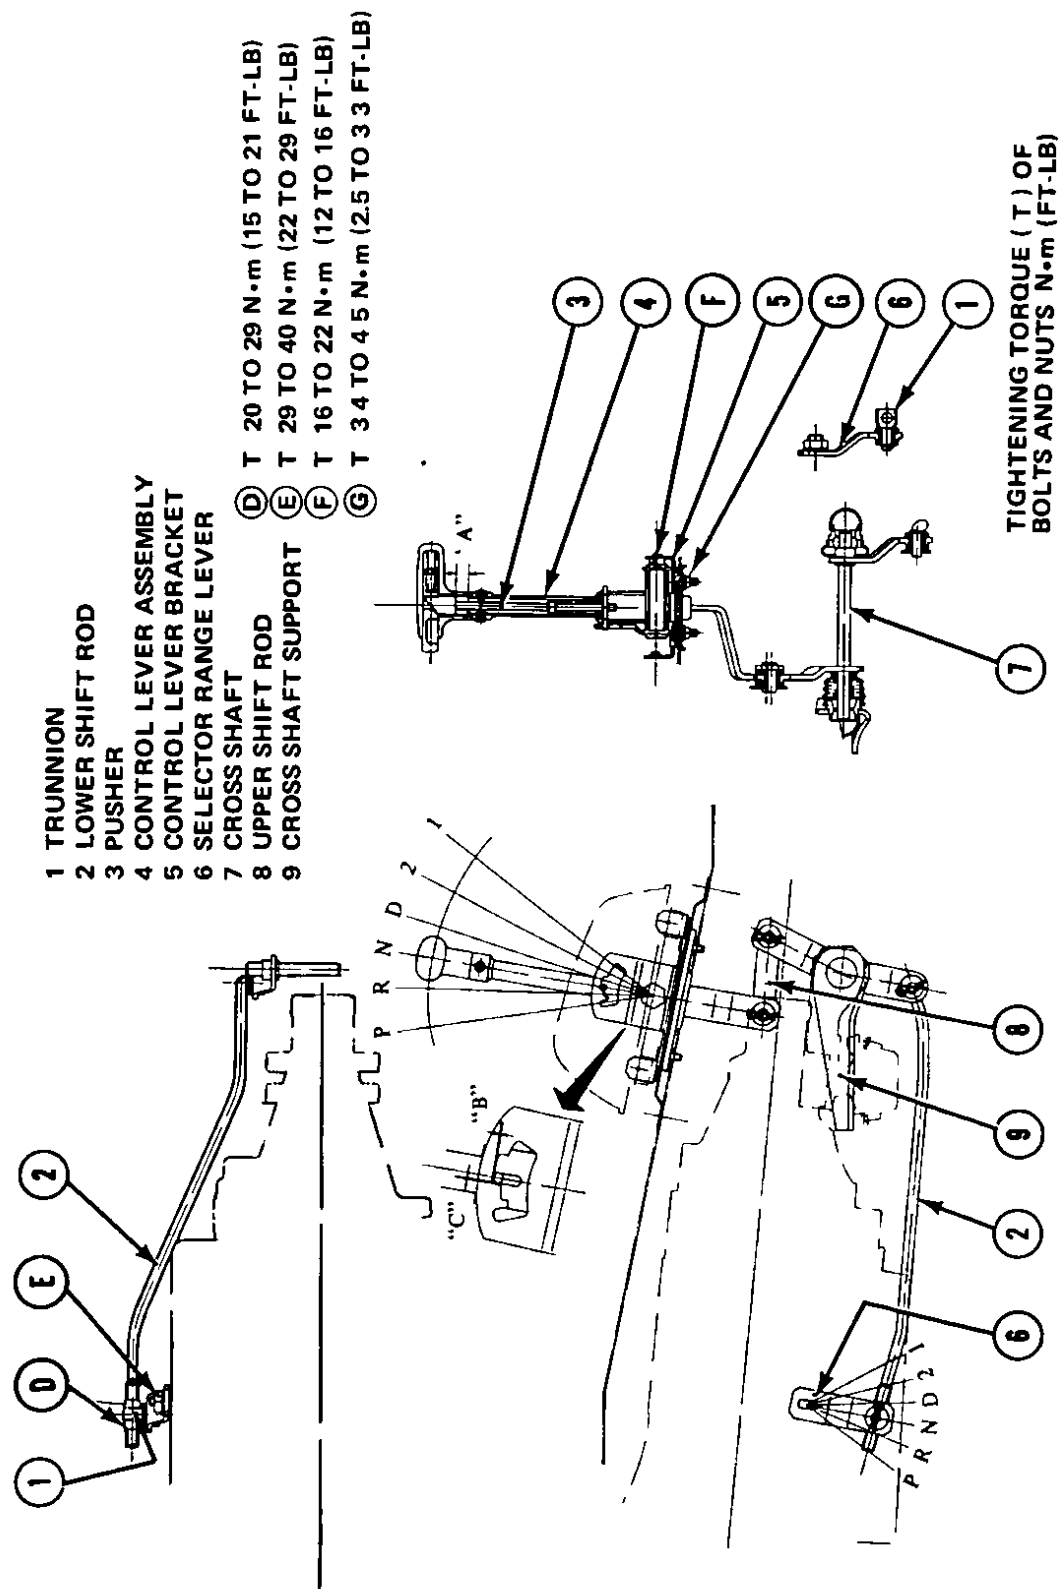

Fig 145 Control linkage system – Model B210
the dimension "A" to 11 to 12 mm (0.43 to 0.47 in.), Fig 145
- 2 Install the control knob on the lever. At the same time check dimension "B" and adjust it to 0.1 to 1.1 mm (0.004 to 0.043 in.) by turning pusher, Fig 145
- 3 Loosen the adjustment nuts. Set control lever and selector lever in neutral. Set the clearance "C" to 1 mm (0.039 in.) by turning adjusting nuts at trunnion which connects selector rod, Fig 145